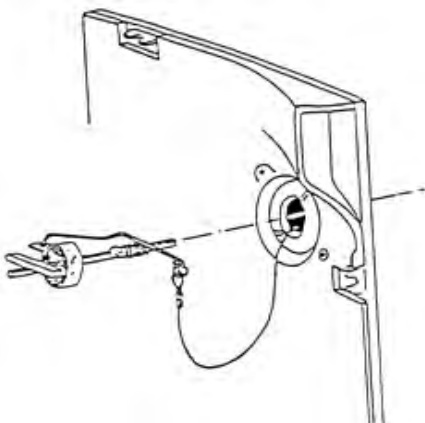

Fig. A-5 Assembled Thermostat
STEP 20: Assemble the thermostat and cable. Open the jump ring and hook the loop on the end of the thermostat cable and the loop on the end of the thermostat actuator rod onto the jump ring. Squeeze the jump ring completely closed with pliers. Holding the thermostat assembly so that the limiter bar is on top of the rod, swing the cable actuator rod over the top of the thermostat shaft as shown in Figure A-5. Place the friction spring on the thermostat shaft and slide the spring up to the shaft stops. Holding the thermostat assembly in the left hand and insuring that the limiter bar is on top of the shaft and parallel with the stove top, insert the end of the shaft, cable and actuator rod through the hole in the centre of the thermostat pocket of the right air/wear plate. Loosen the set screw on the primary air valve and gently pull the slack out of the cable while maintaining your grip on the thermostat shaft protruding out of the right stove end.